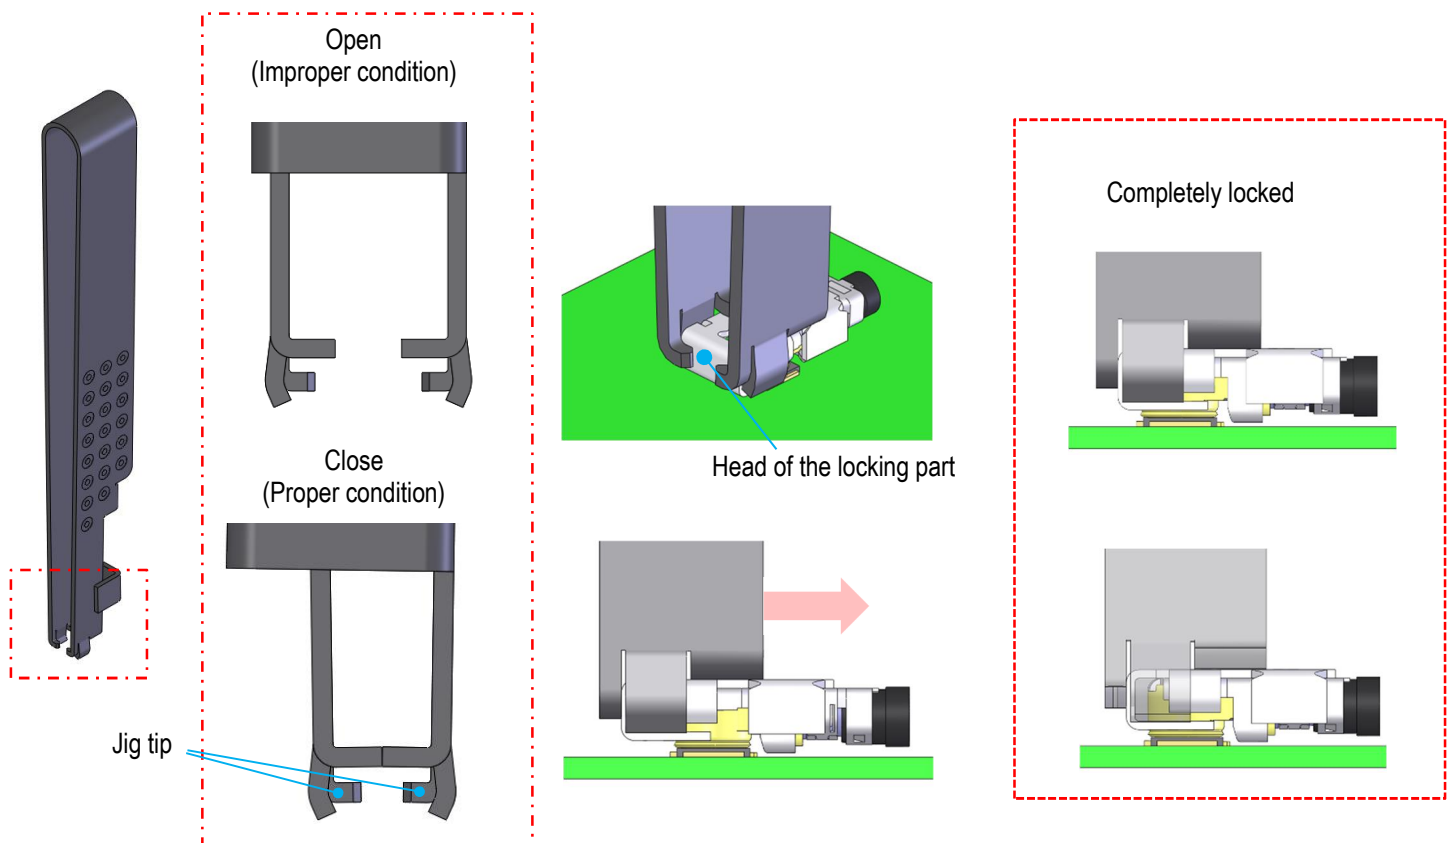

Figure 24
- ① After mating MHF 4L LK Harness, place the jig tip on the head of the locking part and hold the locking part as shown in Figure 24. Close the jig tip in the jig setting. Then, slide the locking part until feel a click.